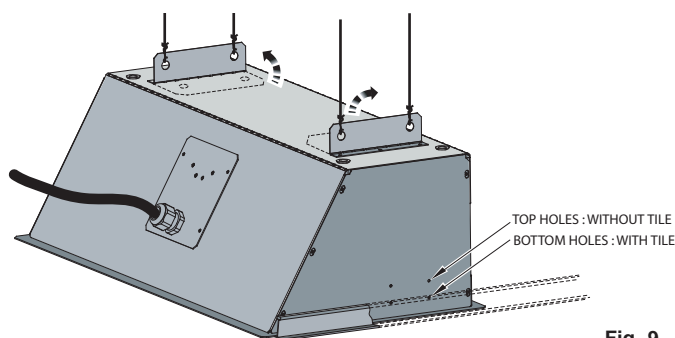
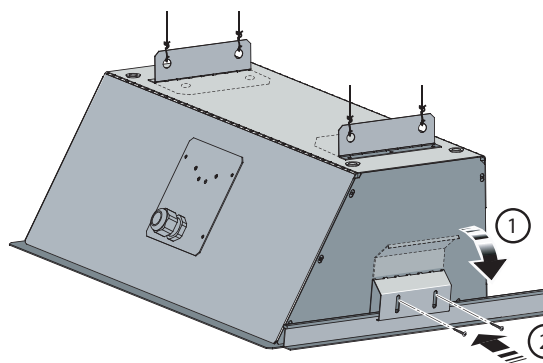

Fig. 9
Fig. 10
2. Bend up the 'Wire Hooks' as shown in **Fig. 9** and use suitable suspended ceiling wire to suspend the heater. (Note the appliance should be mounted as to prevent swaying of the product during operation).
3. **Without Egg Crate Grille:** Use the rail brackets provided. Bend the rail brackets as shown in **Fig. 10**. The appliance should be placed directly onto the suspended ceiling structure in the desired location. Using the screws provided screw the rail brackets onto the heater (Top Holes - see **Fig. 9**) so that it grips the suspended frame (see **Fig. 10**) Close the remaining space around the heater with a cut ceiling tile.
4. **With Egg Crate Grille:** Use the rail brackets and ceiling tile provided. Pick a location to mount the heater. Remove the existing ceiling tile and replace with metal tile supplied. The appliance should be placed directly onto the metal ceiling tile. Using the screws provided screw the rail brackets onto the heater (Bottom Holes - see **Fig. 9**) so that it grips the suspended frame (see **Fig. 10**).